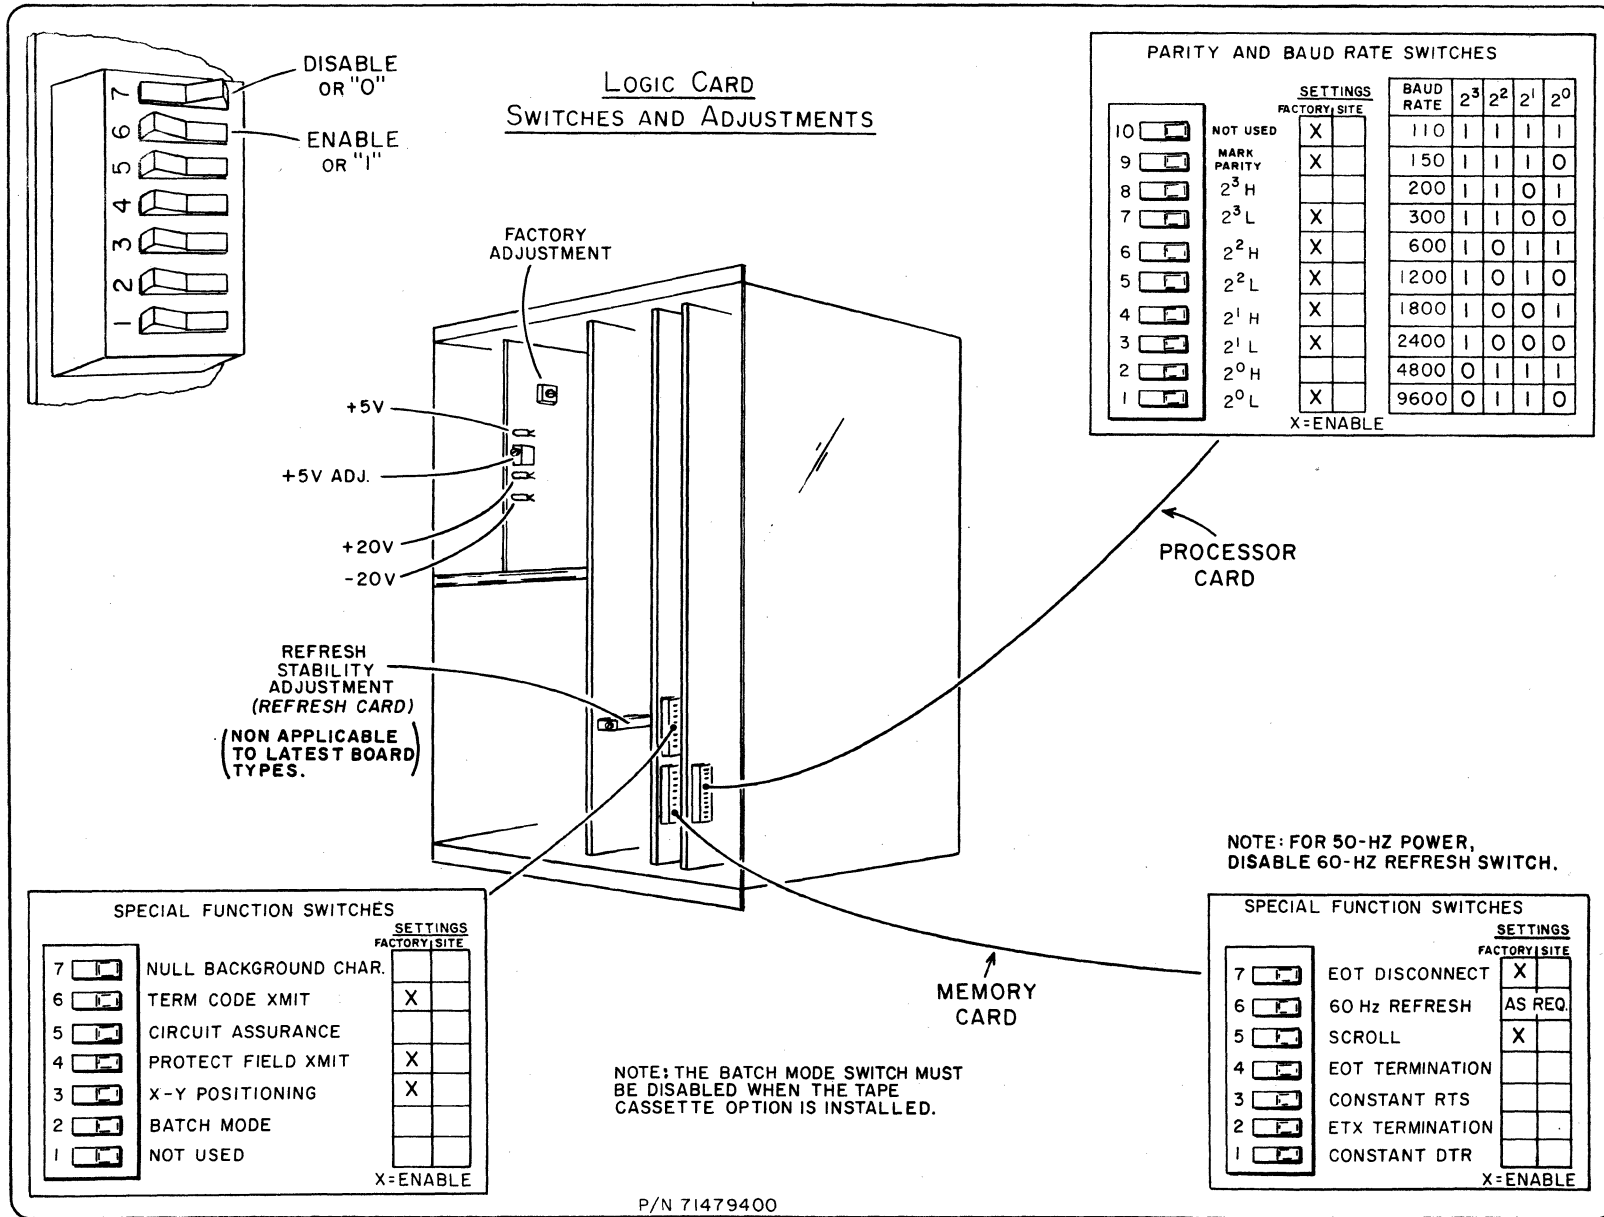

Figure CRT55, Sheet 1 of 2. Logic Module Decal (Switches and Adjustments)
- 3) Verify that 60-Hz refresh switch on memory card 08 (figure CRT55) is set to match cycles of input power.
- 7) With small screwdriver, turn refresh stability adjustment (figure CRT55) counterclockwise/clockwise slowly until midpoint of nondistortion is reached. This indicates that video frequency is synchronized to display line frequency. If unable to stop instability, replace refresh board 06 (procedure CRT8).